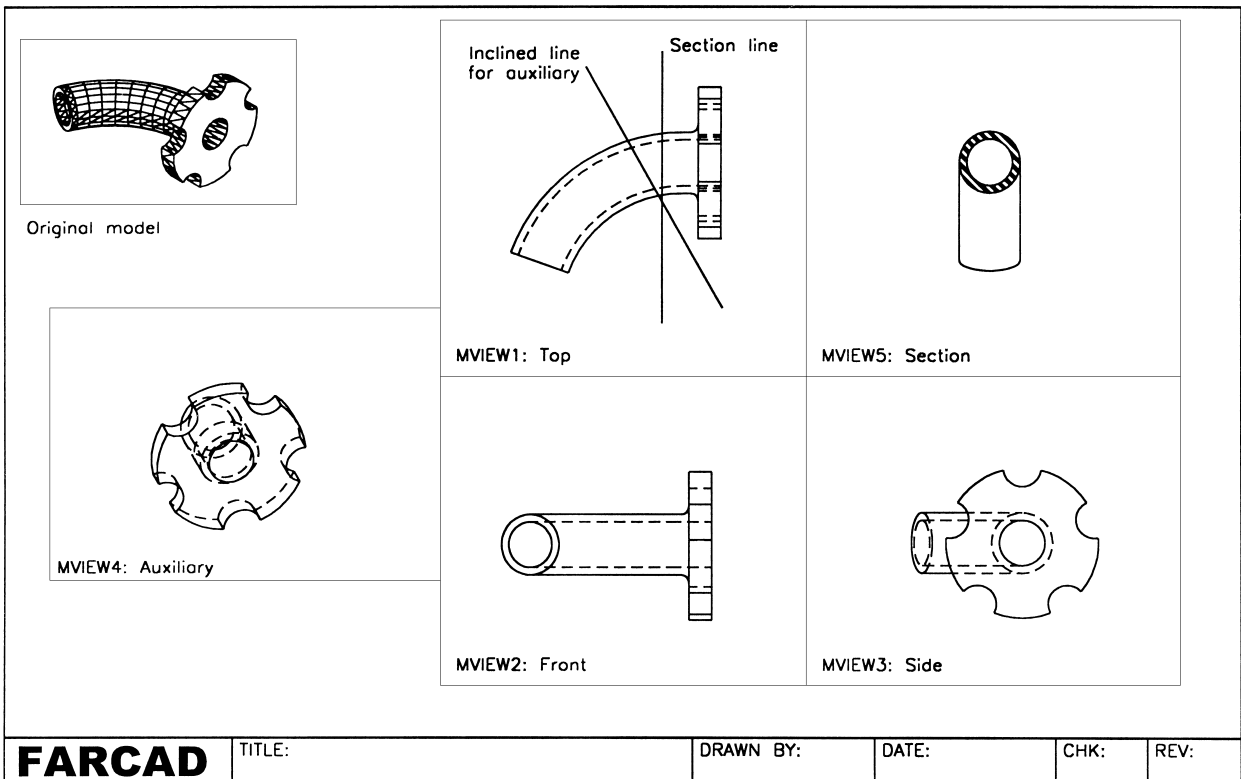

Figure 43.3 Setup view and drawing example 3 – the flange/pipe model.
h) refer to Fig. 43.3 for the viewport layouts
- h) Inclined plane points: pick to suit – see Fig. 43.3
- o) cutting plane points: pick points as indicated in Fig. 43.3
- 6 Activate the Setup Drawing command and pick the five viewports to display the layout with hidden line removal and section detail as Fig. 43.3